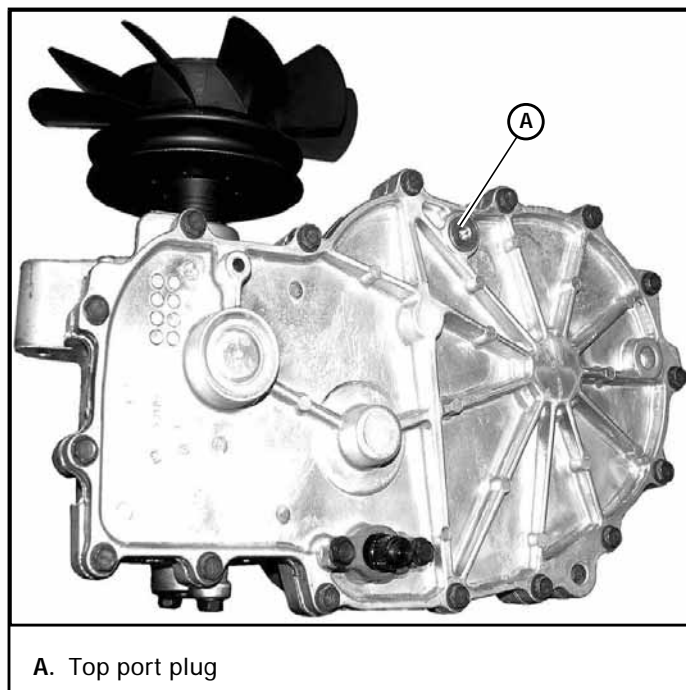

Figure 4-10
- Re-install the filter guard with three 1/4" screws. Torque the screws to 65 in.-lbs. each. Figure 4-10
- IMPORTANT:** Remove the top port plug from both transaxles prior to filling with oil. This will allow the transaxles to vent during oil fill. Figure 4-10
- Fill with **SAE 20W50 motor oil, 15W50 synthetic oil or 20W50 synthetic oil** until oil just appears at the bottom of each transaxles top port (approximately 2 qts. per transaxle). Install the top port plug into each transaxle as the oil level reaches this port. Torque plugs to 180 in.-lbs. Clean up any oil that leaked from the ports. Figure 4-10